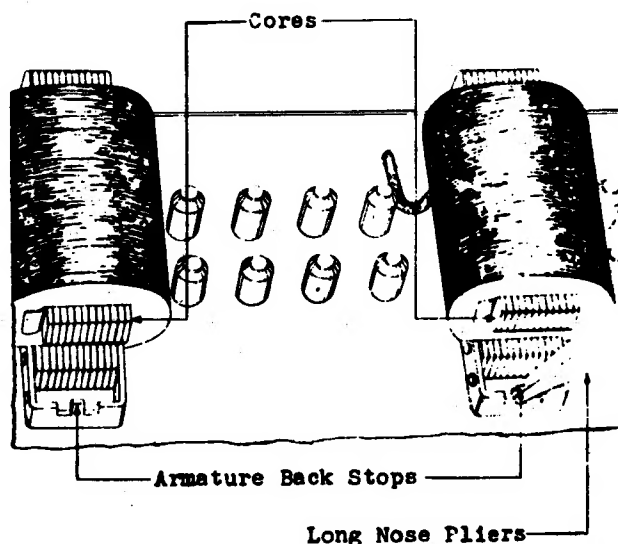

Fig. 5 - Method of Adjusting Armature Back Stops
3.04. Adjust the armature back stops slightly toward the cores with the long nose pliers as shown in Fig. 5. Replace the armature and contact spring assembly as outlined in procedure 3.04. If the armatures still do not move toward the cores when the operate current is applied, repeat this adjustment until it does.